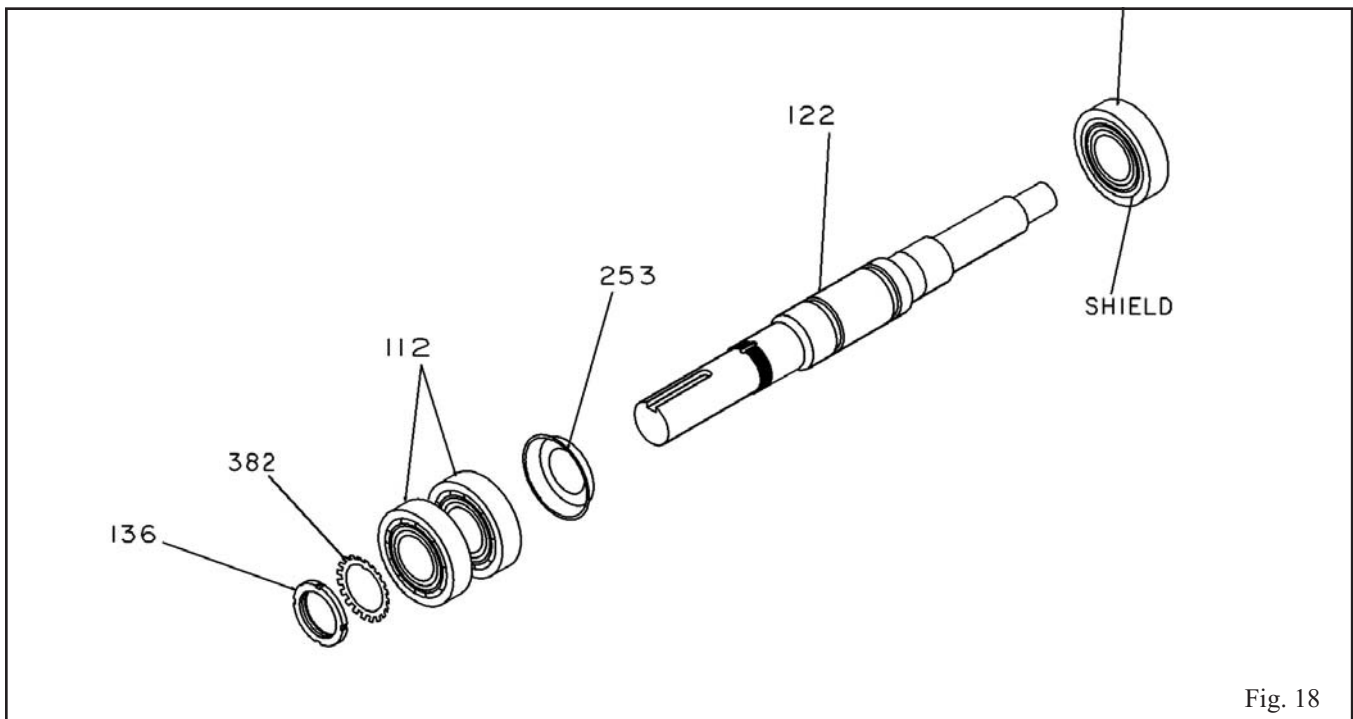

Fig. 18
5. Bend locking tang of thrust bearing lockwasher (382) from notch in bearing locknut (136) (Fig. 18).